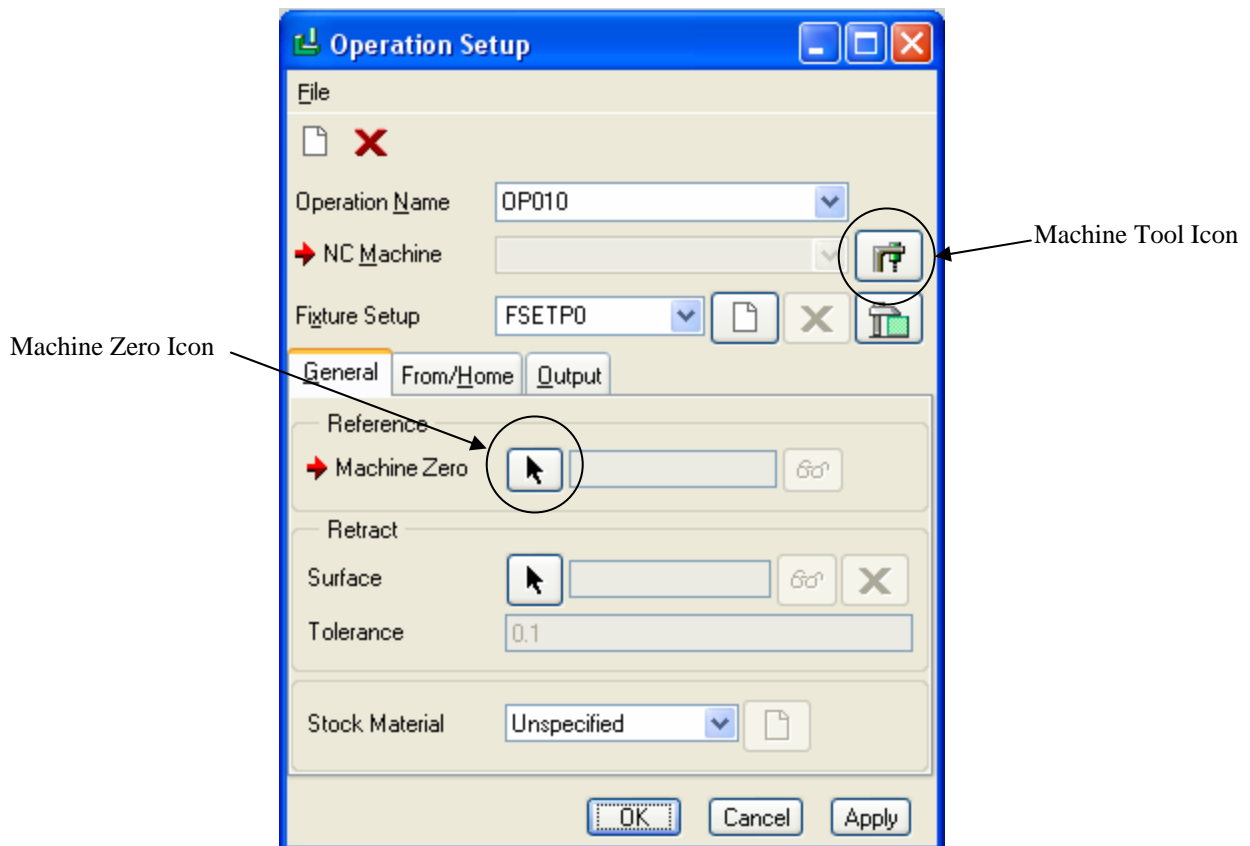

Figure 4a: Machine Zero Option
The Operation Setup dialog box (Figure 4a) contains the following elements:
Step 2:  Select the Machine Tool icon (Figure 4a) on the Operation Setup dialog box.
Step 5: On the Operation Setup dialog box, select the **Machine Zero** pick icon (Figure 4a).